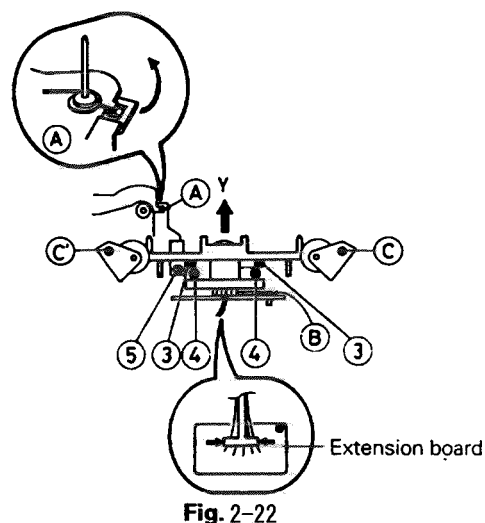

Fig. 2-22
■ Removal of pinch roller (See Fig. 2-22)
1. Remove three screws ① retaining the motor assembly.
2. Remove two screws ② retaining the motor bracket.
■ Remove of head assembly (See Fig. 2-22, 2-23)
3. Remove two screws ③ retaining the head assembly.
4. Remove two screws ④ for the head azimuth.
5. As shown in Fig. 2-22, remove the gear (B) shaft as pulling it along the "Y" direction and raise the head assembly with your hand.
6. Turn the erasion head arm assembly (A) along the arrow direction and remove it referring to Fig. 2-22.